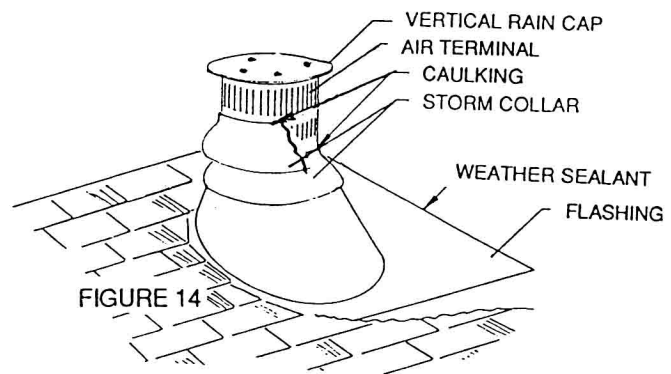

FIGURE 14
6. Slip the roof flashing over the air terminal and fasten to the roof. Make weather tight by sealing with caulking (not supplied). Where possible cover the sides and top edges of the flashing with roofing material (Fig. 14).
7. Run a heavy bead of caulking 2 inches above the flashing. Slide a storm collar down the air terminal to the caulking. Run a second heavy bead of caulking around this storm collar, ensuring that a weather tight seal between the air terminal and collar is achieved. Slide a second storm collar down and center it between the air intake and the air exhaust slots (Fig. 14). Secure with 3 screws and seal using a heavy bead of caulking. For vertical installations, a 12" air terminal cap is available and must be attached. See accessories, section 13.4.